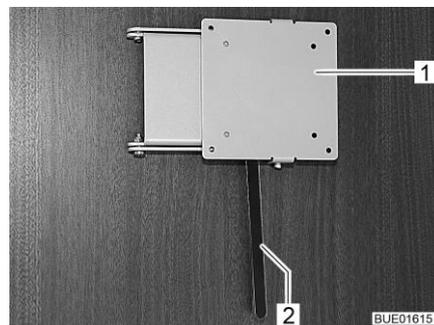

Fig. 92 Holder with release lever
- Positioning:** ■ Push the release lever (Fig. 92,2) to the side and turn the holder (Fig. 92,1) with the flat screen to the desired position.
- Storing away:** ■ Turn flat screen back until the holder (Fig. 92,1) engages in the lock.